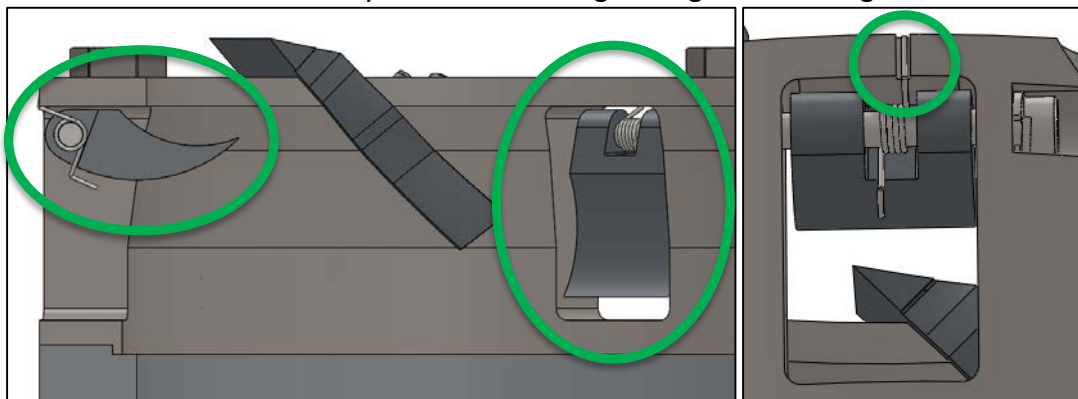

Figure 8: Correct Core Dog Installation
7.3.2 Installing core dogs (Figure 8):
7.3.2.2 Insert the core dog into the core dog window such that its concave surface is facing towards a theoretical core (Figure 8, left highlight) (Figure 8, center highlight). Then slide the screw part way into the core dog through the first leg.